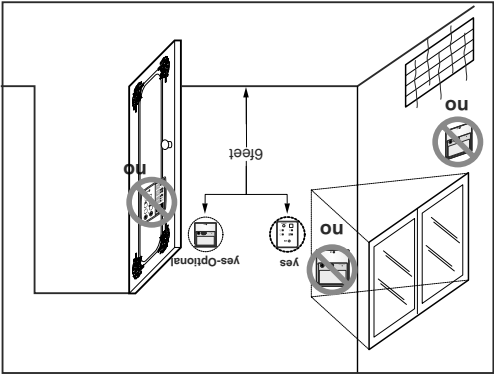

Fig.1 Typical locations for IR Remote Sensor
- This IR remote sensor is equipped with LED display and ON/OFF button. For proper display of the IR remote sensor The IR remote sensor should be installed properly as shown in Fig.1. (The standard height is 6 feet from floor level.)